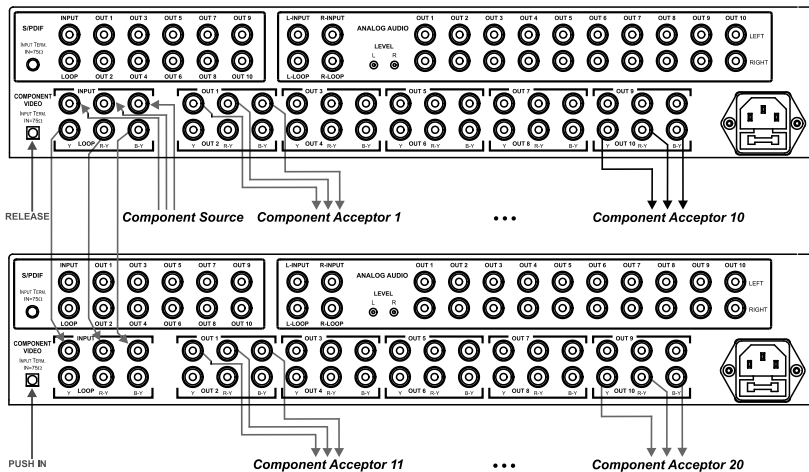

Figure 5: Connecting Several VM-100CA Units
You can connect several **VM-100CA** units to form an expanded video component / audio distributor. For example, as Figure 5 illustrates¹, connect two **VM-100CA** units to form a 1:20 video component / audio distributor.
5. Connect both power cords (not illustrated in Figure 5).